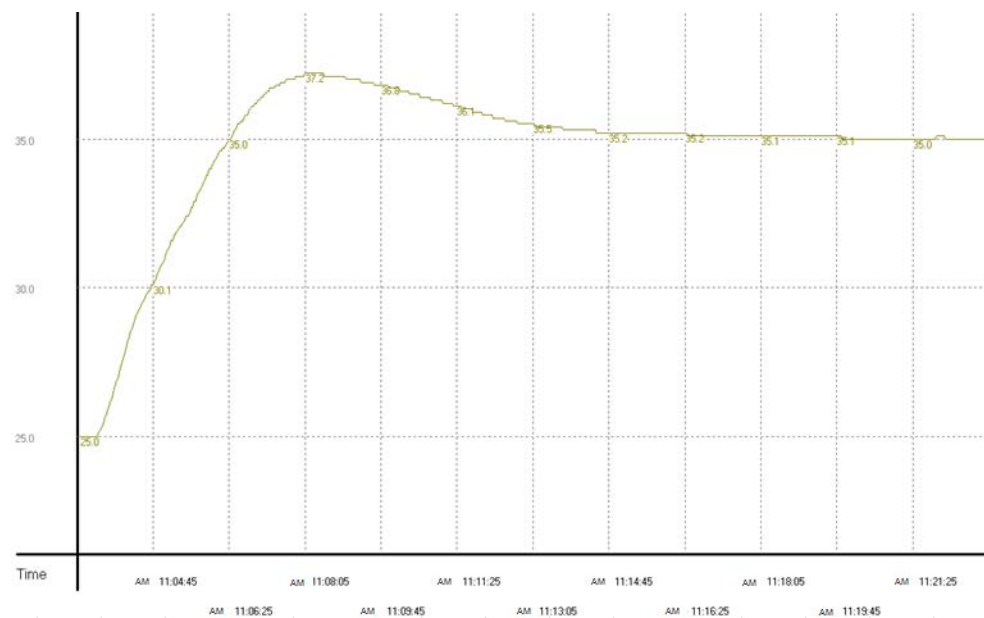

Figure 9
- ◆ Use PID control mode 4 and the PID temperature control parameters (K_P , K_I , and K_D), and enable M0 again to execute the instruction PID. The experimental result is shown in Figure 9.
When the target temperature set is 35°C, the experimental result of using the parameters (K_P , K_I , and K_D) after the adjustment for temperature control is like the one shown in Figure 9.